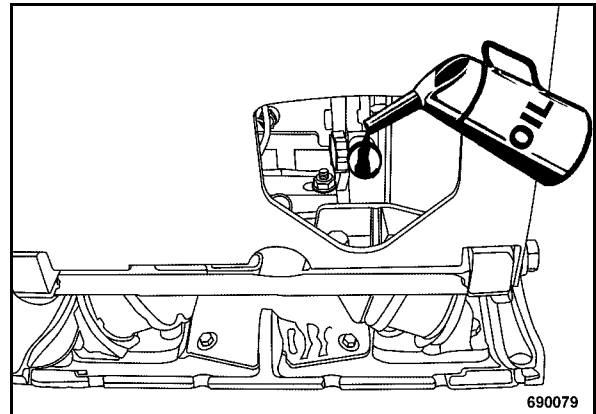

Fig. 42
- Fill in fresh engine oil through the filler opening (Fig. 42).